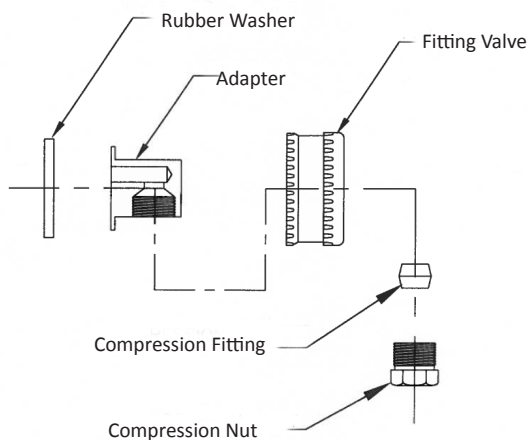

Figure 9
- Water connection is made through a right angle garden hose fitting supplied with the ice machine. See Figure 9 for detailed instructions. **DO NOT USE ANY THREAD SEALERS.**